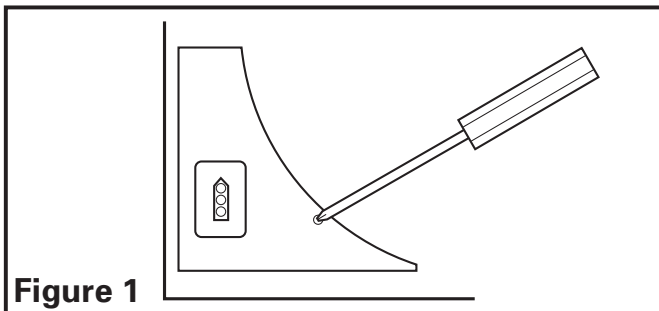

Figure 1
2. Remove the wire compartment cover and store in the carton until needed so it does not get damaged or lost (Figure 1).